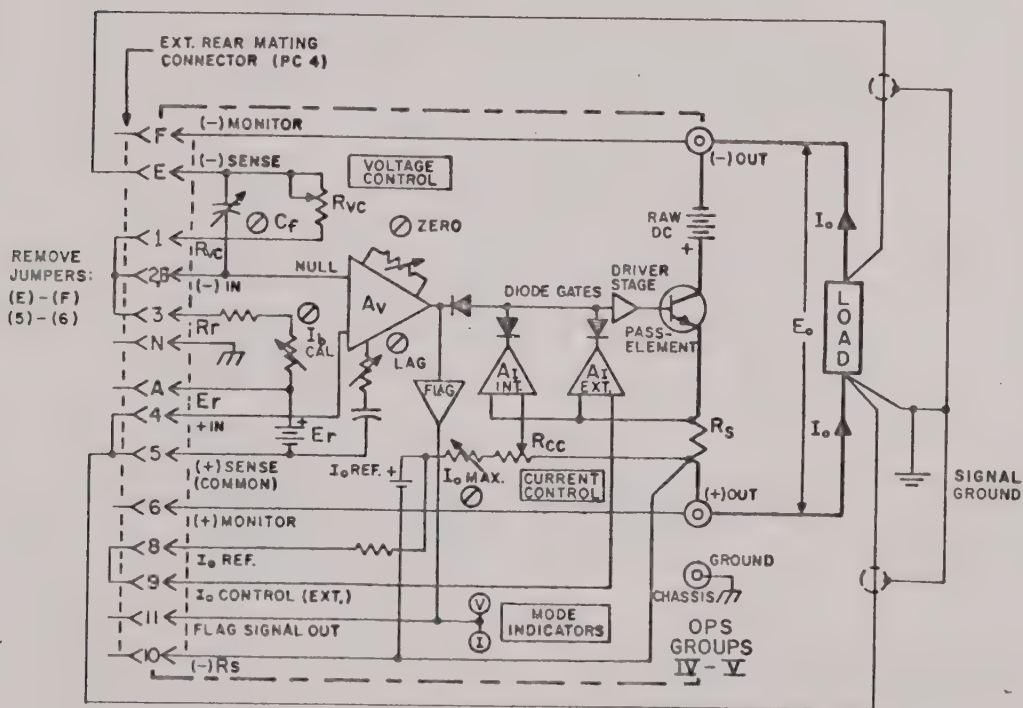

FIG. 3-2 REMOTE ERROR SENSING.
- c) **LOAD CONNECTION (II).** The recommended load connection for all applications requiring minimum output effects across a remote load is shown in FIG. 3-2. A twisted, shielded pair of wires (NO. 20 AWG minimum) are connected from the OPS "± sensing" terminals to the load. (For many applications twisted pair unshielded wire is adequate.) This "remote error sensing" technique will compensate for load wire voltage drops up to 0.5 volts per wire. **NOTE: OBSERVE POLARITIES: THE *NEGATIVE* SENSING WIRE MUST GO TO THE *NEGATIVE* LOAD WIRE. THE *POSITIVE* SENSING WIRE MUST GO TO THE *POSITIVE* LOAD WIRE.**